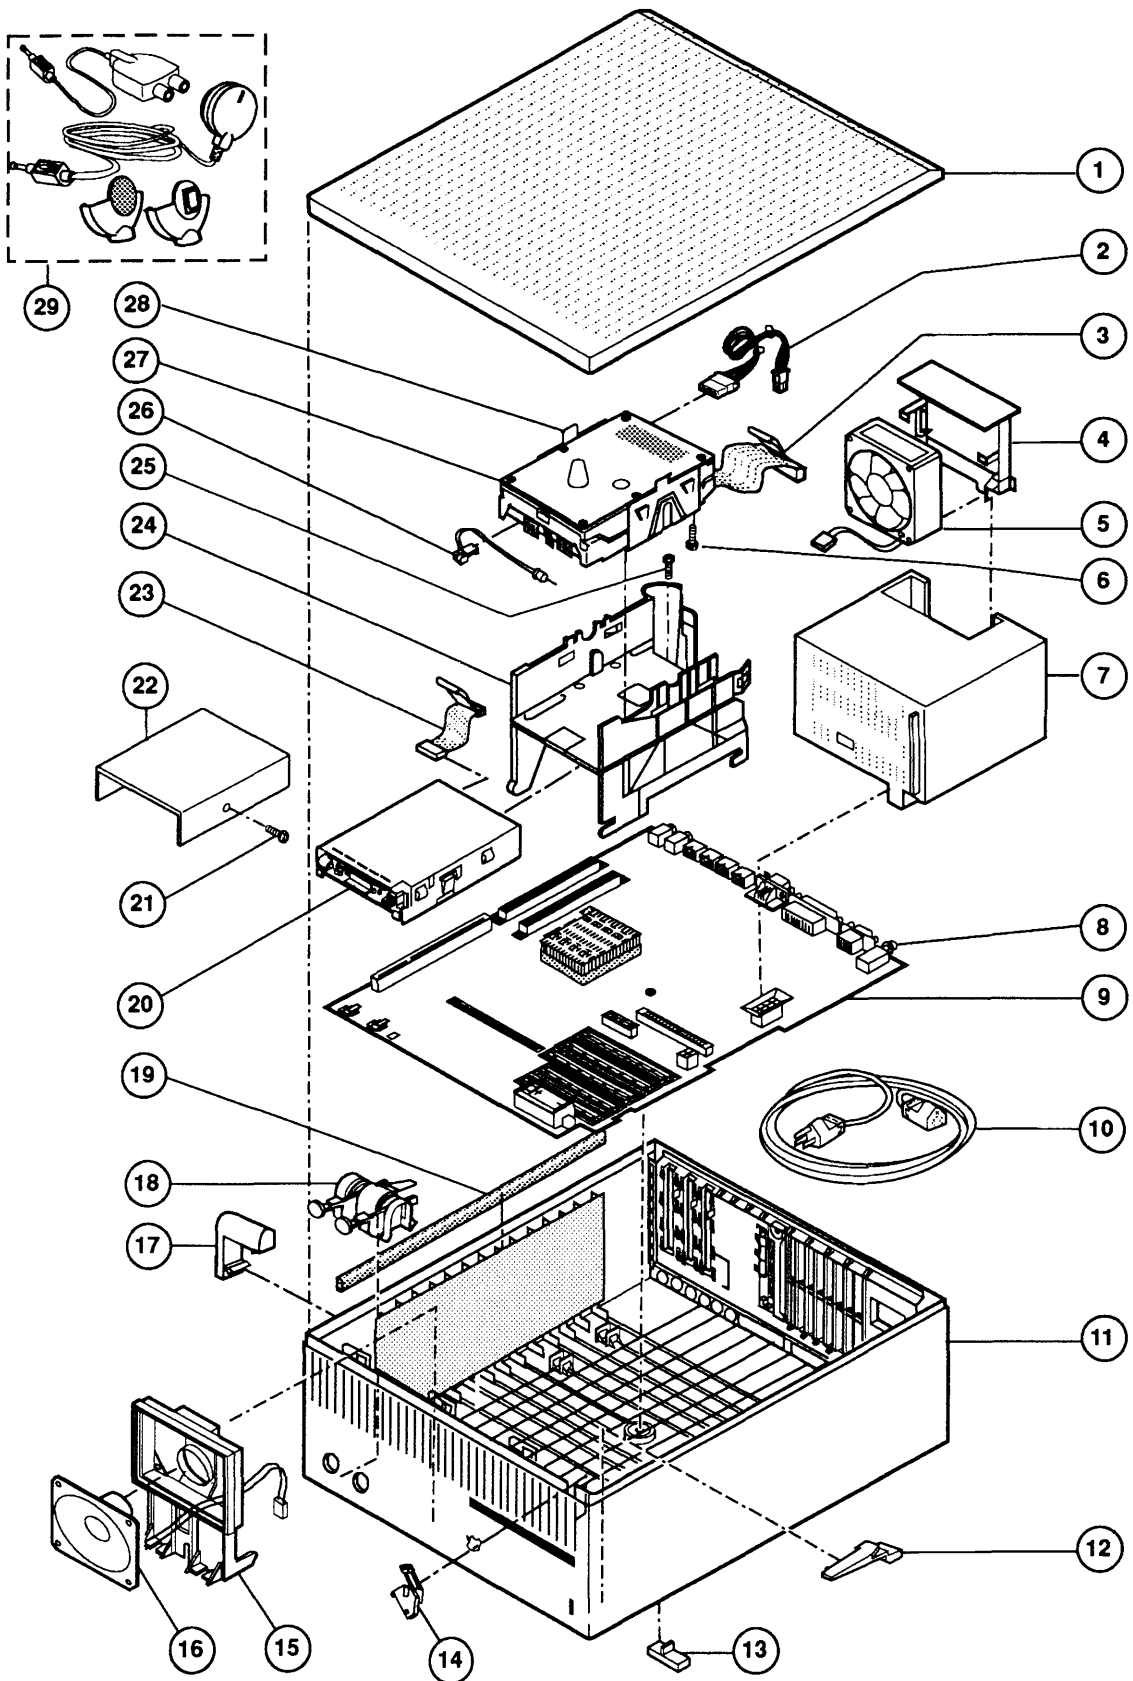

Figure 3 Macintosh Quadra 700 – Exploded View
IPL.7	Macintosh Quadra 700 – Exploded View (Figure 3)
□ MACINTOSH QUADRA 700 – EXPLODED VIEW (Figure 3)